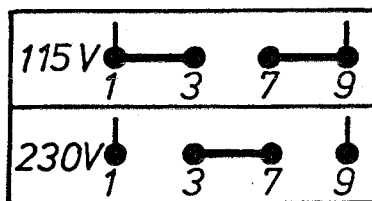

Fig. 2. Connection diagram for the different mains voltages
- change the connections on the transformer in accordance with the diagram (see Fig. 2).